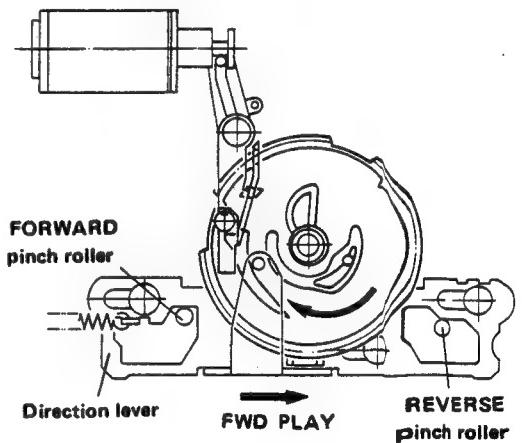

Figure 19
- When the cam of Item a operates, it is guided towards the cam section for FWD operation and locked in the condition shown in Fig. 19.